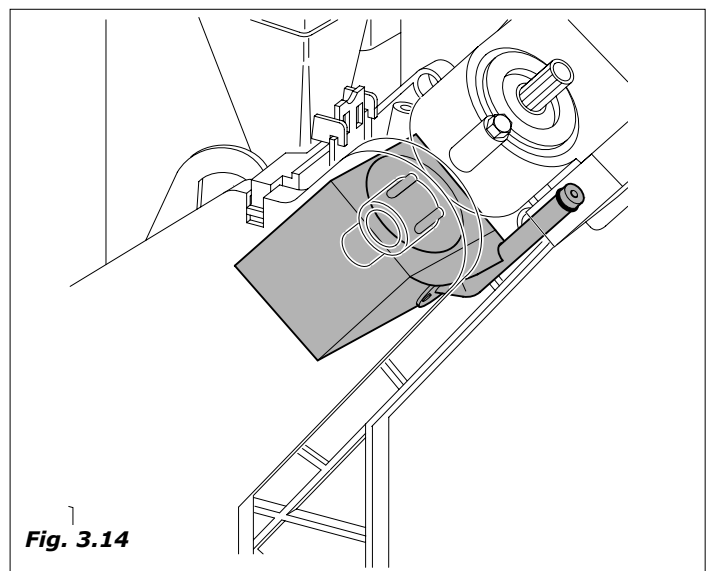

Fig. 3.14
- the coffee group geared motor is activated again so as to bring again into standby position; during this movement the used coffee grounds are expelled (Fig.3.14).